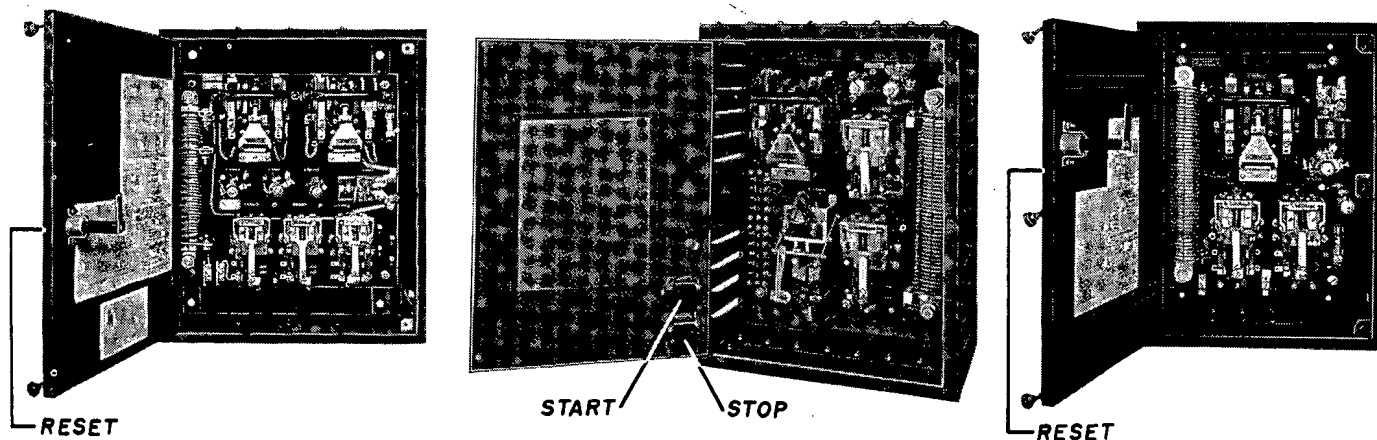

Figure 4-1. Magnetic Starters
(1) Place the Controller Disconnect Line Switch in its ON position. This makes the ship's d-c power available to the motor starting circuits.
(2) Push the START switch on the Pushbutton Station. This switch energizes the Magnetic Controller and starts the motor on the Motor-Generator. If the overload device trips it may be reset by pressing the Reset button. See Fig. 4-1. In the later SR Equipment resetting occurs automatically when the START button is pressed.